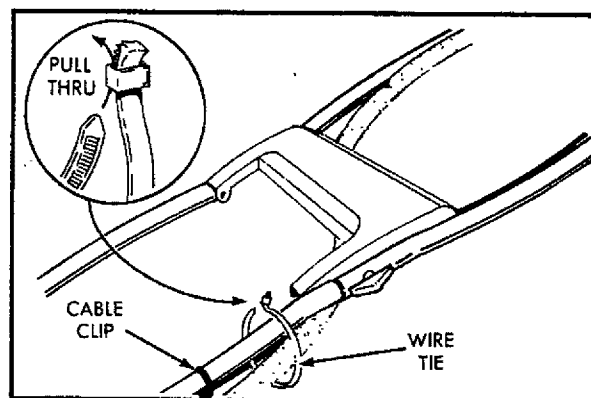

FIG. 4
- c. Cut the wire tie and remove the cable clip from lower handle. Keep cable clip for reuse (See Fig. 4).
- m. Install the wire tie over the cable sleeve and lower handle, pull up snug and cut off excess end of wire tie. (See Fig. 4).